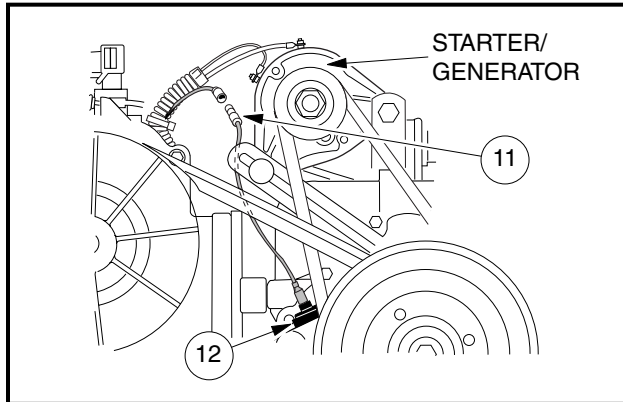

Figure 13-2 Oil Level Sensor Wire
1. Remove yellow jumper wire (11) from cord connector (12) (**Figure 13-2, Page 13-5**).
1. Connect the yellow jumper wire (11) to the cord connector (12) (**Figure 13-2, Page 13-5**).